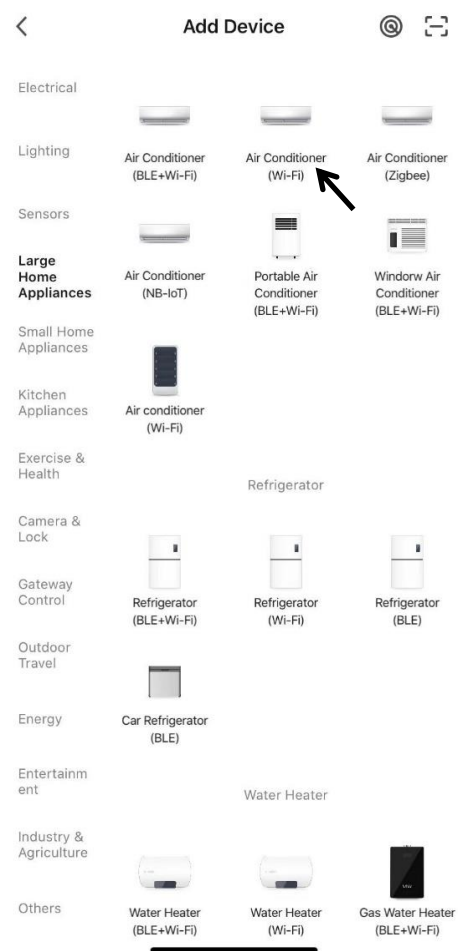

Fig.2
- Twist part B onto the hot air exhaust hose. Attach part A to B; lock them together. Now you get the hose connector (Air conditioner end) assembled. Twist the hose connector (Window end) onto the hot air exhaust hose. **(Fig.2)**
3. Find "Large Home Appliances" and tap the icon "Air Conditioner (Wi-Fi)". (Fig.2)